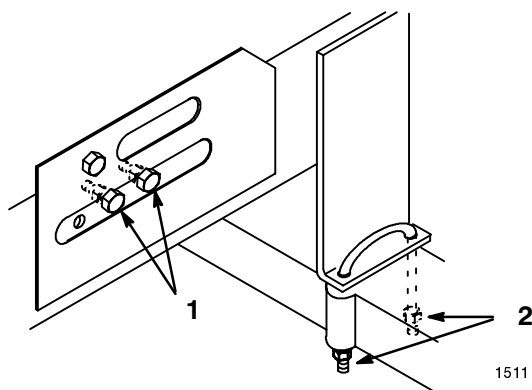

Figure 1
3. Remove (2) 5/16 x 1-1/4" bolts and nuts from left and right tractor frame (in front of transaxle) and transaxle U-bolt mounts (Fig. 1). Discard this hardware.